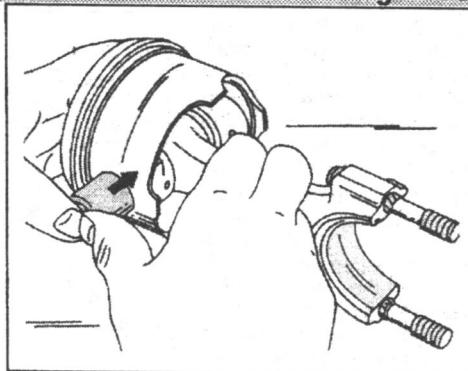

Fig. 1.68. — Fitting a piston pin.
- Lubricate the piston pins, piston pin bores and small end bores of the connecting rods and push the piston pin into piston and small end as shown in Fig. 1.68. A tight piston pin can be fitted easier if the piston has been warmed-up in hot water. The pin securing clip must be fitted to one side of the piston. Push the pin in position until it rests against the circlip and the fit the clip on the other side (engage fully).